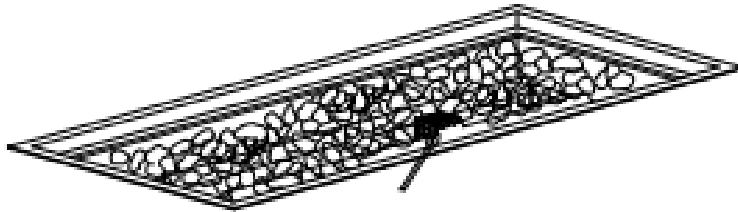

FIGURE 4
4. Clear small area of glass rocks away from the igniter cover (Figure 4).